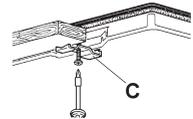

Fig.4
- Introduce and place the cook-top in the hole made in the piece of furniture, then block it with the screws of the fastening hooks C (fig.4).